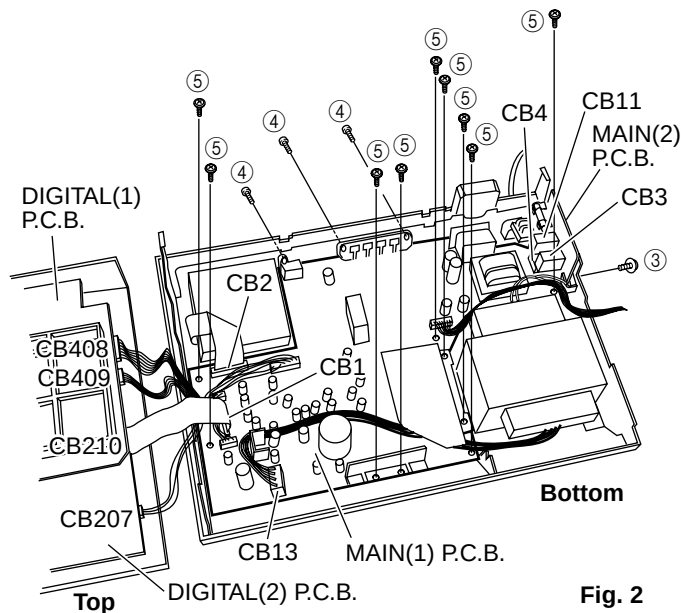

Fig. 2
- Remove 7 screws (②).
- Remove 1 screw (③), shift the MAIN P.C.B (2) upward and then remove the connector (CB4). (Fig. 2)
- Remove 3 screws (④).
- Remove 9 screws (⑤). The MAIN P.C.B. (1) and MAIN P.C.B. (2) can then be removed. (Fig. 2)